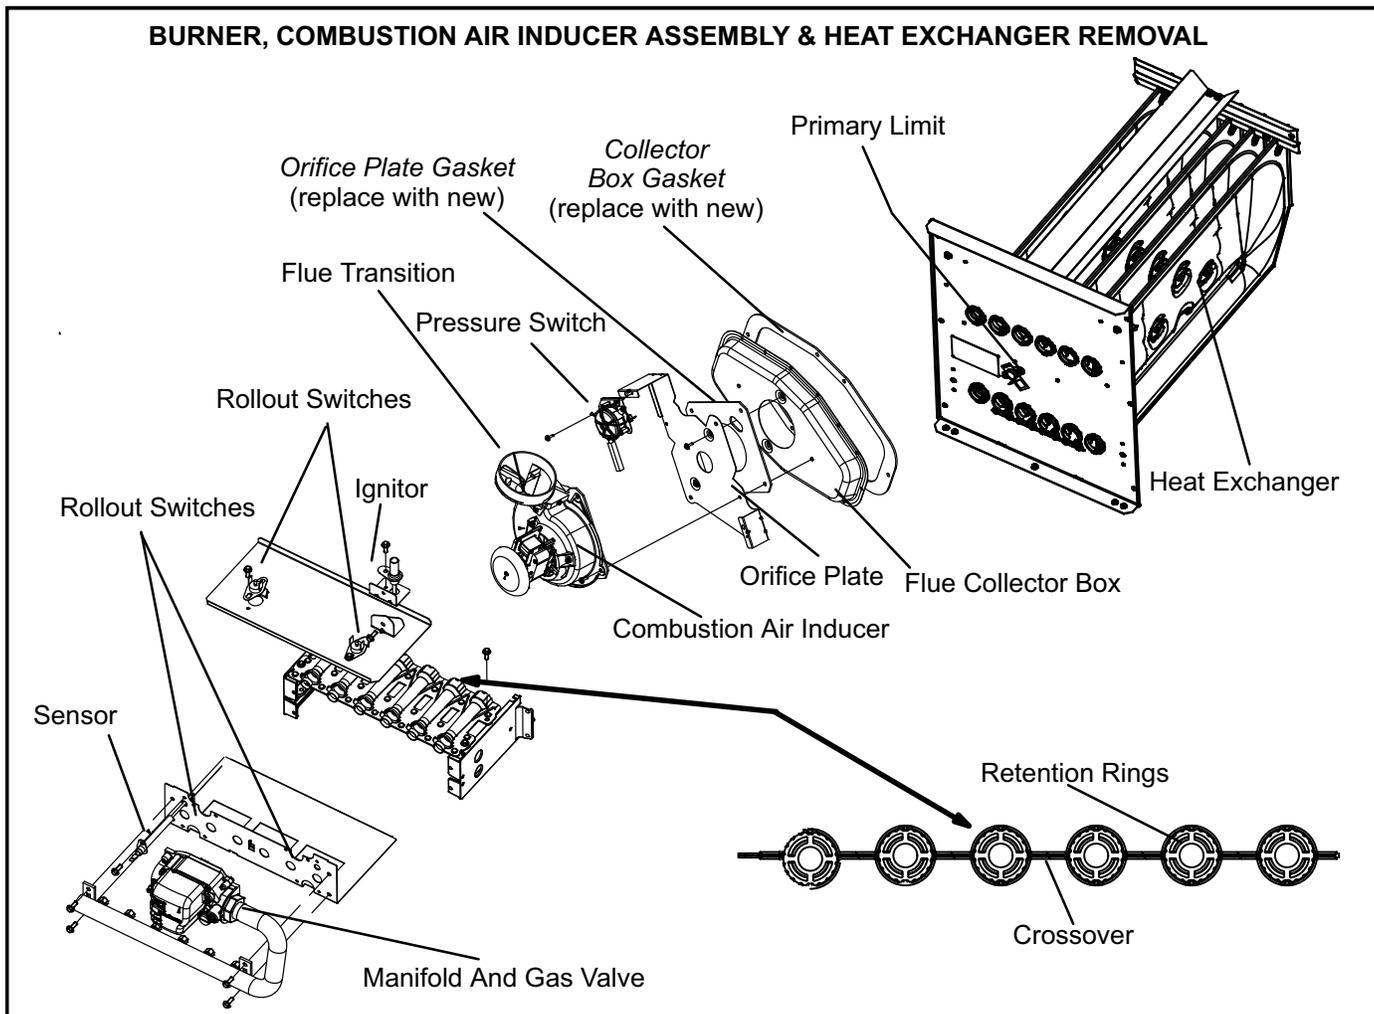

FIGURE 1
Refer to figure 1 as you disassemble the the unit. Place papers or protective covering in front of the furnace before removing the heat exchanger assembly.
- 11- Visually inspect inside the burners and crossovers for any blockage caused by foreign matter. If burners and crossovers are clean move to next step. If necessary, run a vacuum cleaner with a soft brush attachment over the face of burners. Remove any blockage. Figure 1 shows burner detail.